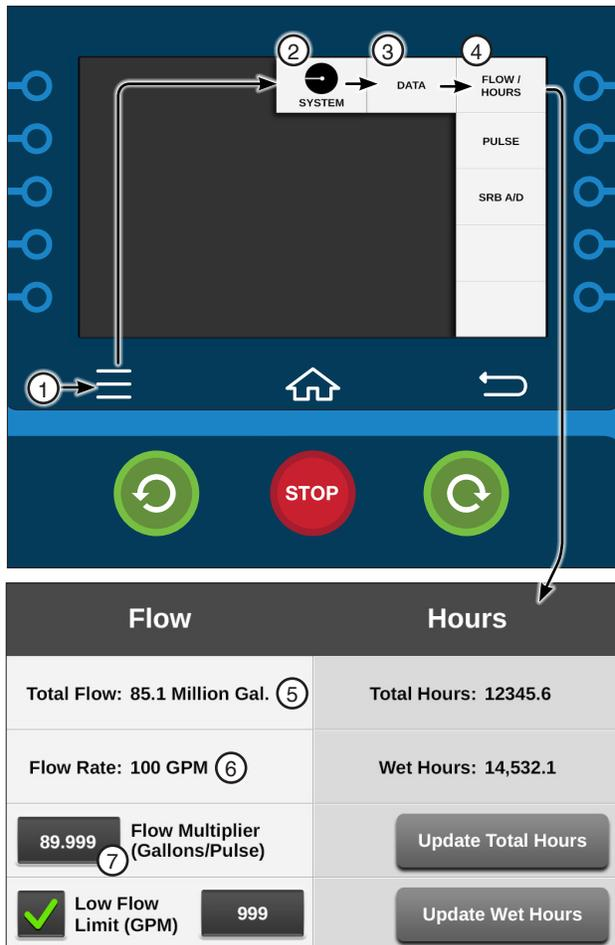

Figure 62-1 1. Menu 2. System 3. Data 4. Flow / Hours 5. Total Flow 6. Flow Rate 7. Flow Multiplier
The Data option is used to review the machine's Flow / Hours, Pulse and SRB A / D information collected by the control panel. Push **Menu**, **System** and **Data**. Refer to Figure 62-1.
Push **Menu**, **System**, **Data** and **Flow / Hours** to display the Flow / Hours screen. Refer to Figure 62-1.
1. Select the **Flow Multiplier** field. Refer to Figure 62-1.